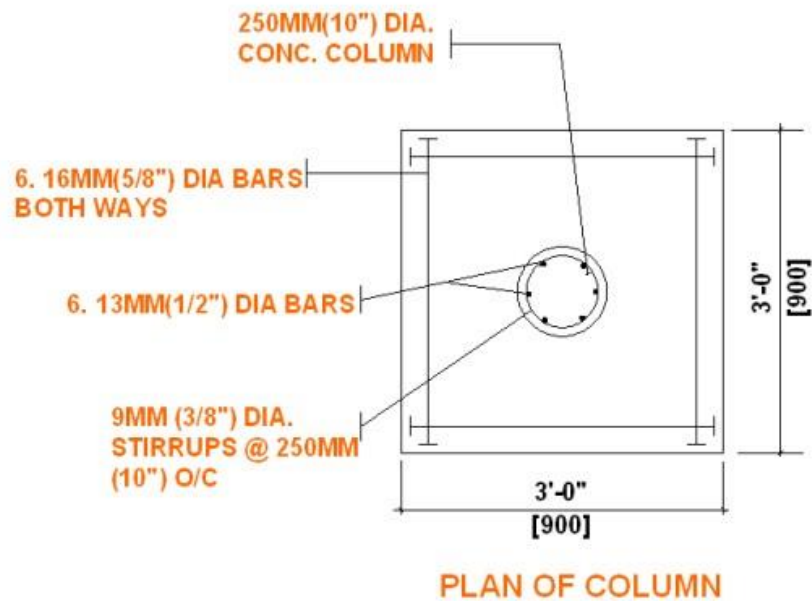

Figure 2. Plan of column
2. Figure 2 shows a plan of a round column and the footing that supports the column.